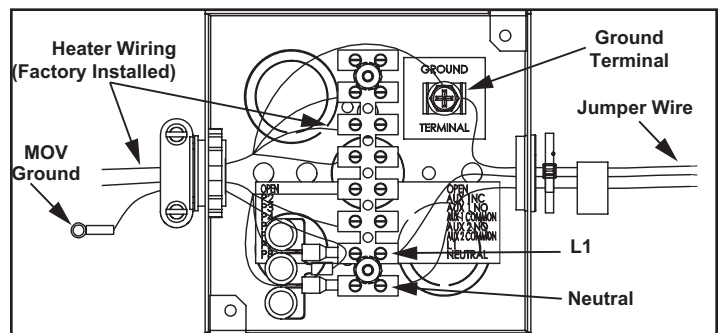

Figure 53. Power Supply Connections
The 120 VAC hot wire from the power supply must connect to the black jumper wire or the “L1” terminal block location in the junction box and the 120 VAC neutral wire must connect to the white jumper wire or the “Neutral” terminal block location in the junction box for correct polarity. See *Figure 53*.
3. Connect the 120 VAC hot wire from the power supply to the black jumper wire or the terminal block location marked “L1” inside of the junction box located on top of the water heater. If the black jumper wire is used, make the connection inside of the junction box with a properly sized wire nut and wrap electrical tape around the wire nut and wire end. See junction box *Figure 53* and wiring diagram *Figure 62* (page 71).
4. Connect the 120VAC neutral wire from the power supply to the white jumper wire or the terminal block location marked “Neutral” inside of the junction box located on top of the water heater. If the white jumper wire is used, make the connection inside of the junction box with a properly sized wire nut and wrap electrical tape around the wire nut and wire end. See junction box *Figure 53* and wiring diagram *Figure 62* (page 71).
5. Connect the ground wire from the power supply to the green jumper wire or the ground terminal location inside of the junction box located on top of the water heater. If the green jumper wire is used, make the connection inside of the junction box with a properly sized wire nut and wrap electrical tape around the wire nut and wire end. See junction box *Figure 53* and wiring diagram *Figure 62* (page 71).